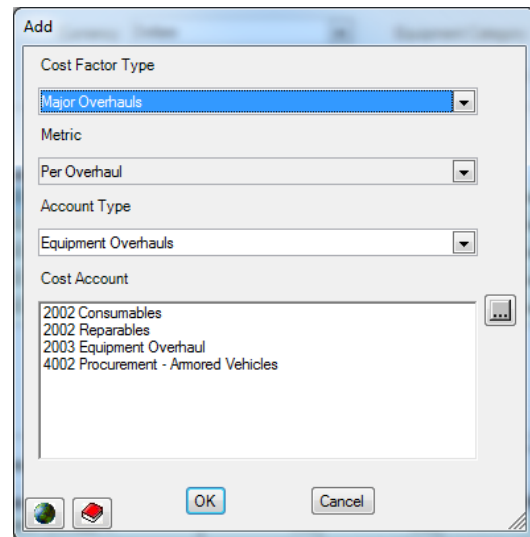

Figure 5-105. Add Window (Equipment Overhauls)
- Right-click and choose **Add** from the shortcut menu. The window shown in Figure 5-105 will open.